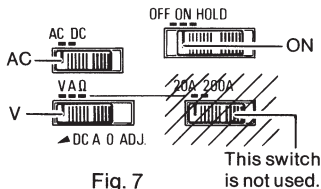

Fig. 7
- (1) Set the selector switches as shown in Fig. 7.
- (2) As is with the DC voltage measurements, insert the test leads into the input terminals of the instrument.
- (3) Touch the test lead prods to the circuit under test. The AC voltage measured will be indicated on the display.